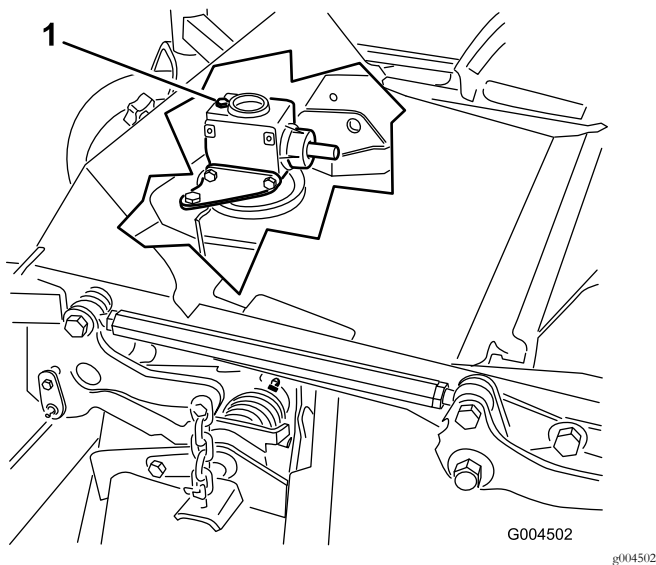

Figure 34
6. Remove the dipstick/fill plug from the top of the gearbox and make sure that the lubricant is between the marks on the dipstick (Figure 34).
6. Remove the dipstick/fill plug from the top of the gearbox (Figure 34).